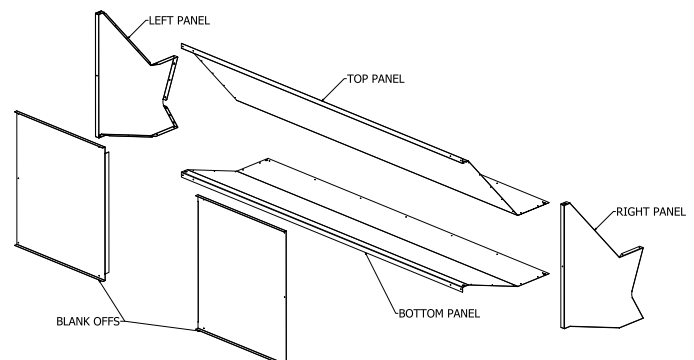

FIG. 6 (Transition Kit Exploded View)
The transition section(s) are shipped knocked down and are to be field assembled and installed per their supplemental instructions (FIG. 6). Exceptions are the Wind Stopping (WMI, WMH) and WindGuard (BD) series, which are shipped with fully assembled transitions.